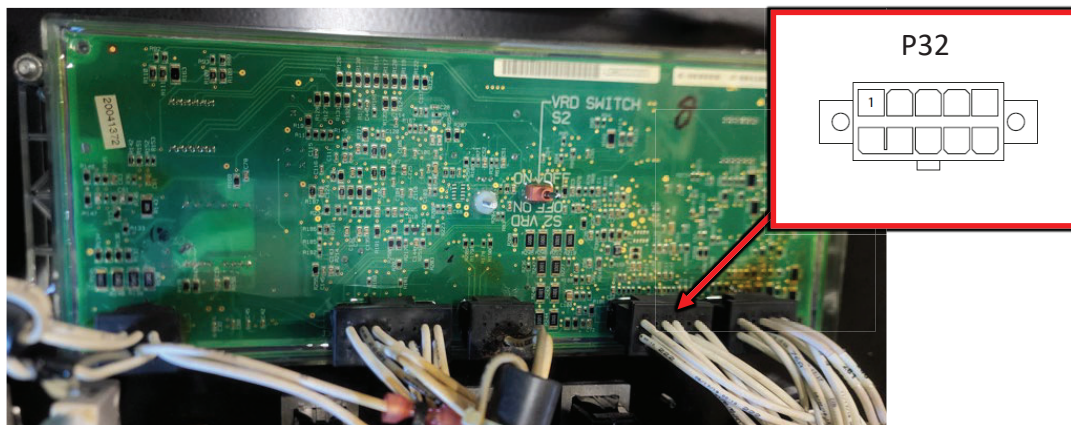

Figure F.2
- A.2. Label and disconnect the following connections on the Chopper User Interface board (behind front panel), refer to Figure F.2..
- A.3. Perform the static measurements in Test Table 1, refer to Figure F.2 for test point locations. NOTE: MEASUREMENTS ARE MADE ON THE P32 PLUG REMOVED ABOVE.